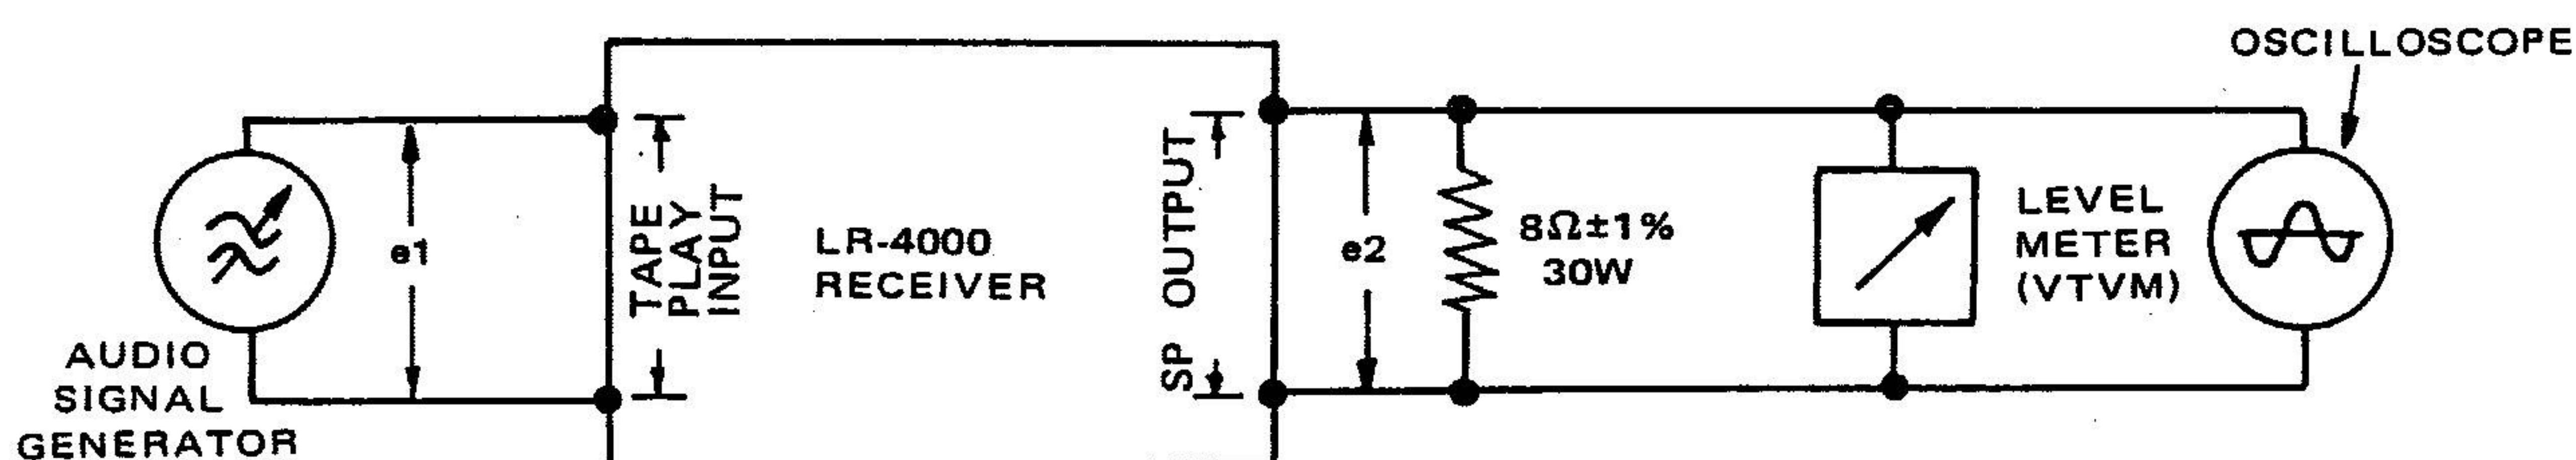

Figure 1. Audio Amplifier Test Set-Up
1. Connect the output of an audio signal generator to the front left "TAPE - PLAY" input jack [located on the rear panel] of the receiver [see Figure 1].
4. Connect an 8 ohm resistive dummy load to the appropriate SPKR terminals as shown in Figure 1.
5. Connect a VTVM across 8 ohm resistive dummy load as shown in figure 1.
6. Connect an oscilloscope across the VTVM as shown in Figure 1.